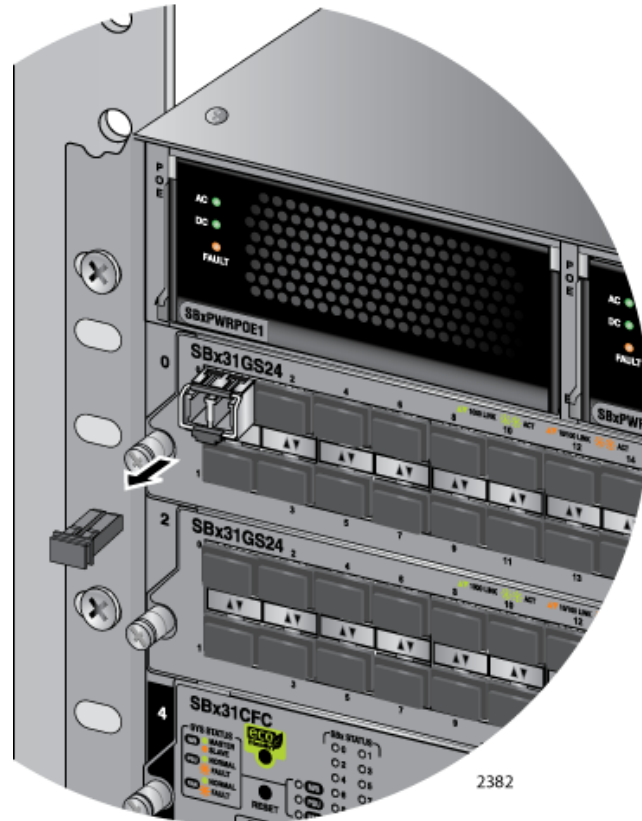

Figure 88. Removing the Dust Cover from the SFP Transceiver in the AT-SBx31GS24 Line Card
5. Remove the protective cover from the SFP transceiver, as shown in Figure 88.